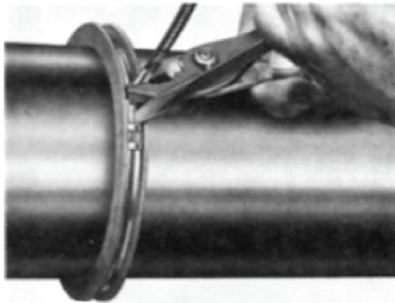

Figure 1 - Seal Retainer Installation
8. **Thrust collars in a fixed non-expansion unit should now be installed.** (Step 8 does not apply to short series (SSL) style pillow blocks, or shafts with integral collars.) Remove clamp screws from thrust collars and clean cracked joint with wire brush. Back off set screws to clear inside of collar. Place one collar half on shaft so shaft flinger groove is next to liner base in the non-expansion (fixed) bearing. Rotate collar half around shaft and place other half in position. Bring halves together at joint, making sure match at joint is perfect and insert clamp screws. There should be no offset at collar face. Tap halves together and tighten 1/2-13 NC (Soc). HD clamp screws to recommended torque of 1425 in.-lbs. Repeat above operation for opposite end of bearing. **Assemble two collars on one bearing only.** Tap collar up to face of lower liner allowing a total running clearance of .015-.017, then tighten 7/8-9NC (Soc) set-screws to recommended torque of 4100 in.-lbs. Thrust collars do not apply to short series (SS) style. Collar should run parallel to end face of liner within .002".
11. Thread **dust seal** and **seal retainer** into groove at end of housing base and around shaft. Slide free end of seal retainer through clasp and pull tightly. Hold clasp and tighten as shown in Figure 1. Cut off excess material and break off clasp lip, discarding it so it won't drop in housing bottom. Seal retainer may be disengaged before installation by inserting a straightened paper clip **between the bands** at the clasp and pulling the free end of the retainer out of the clasp.